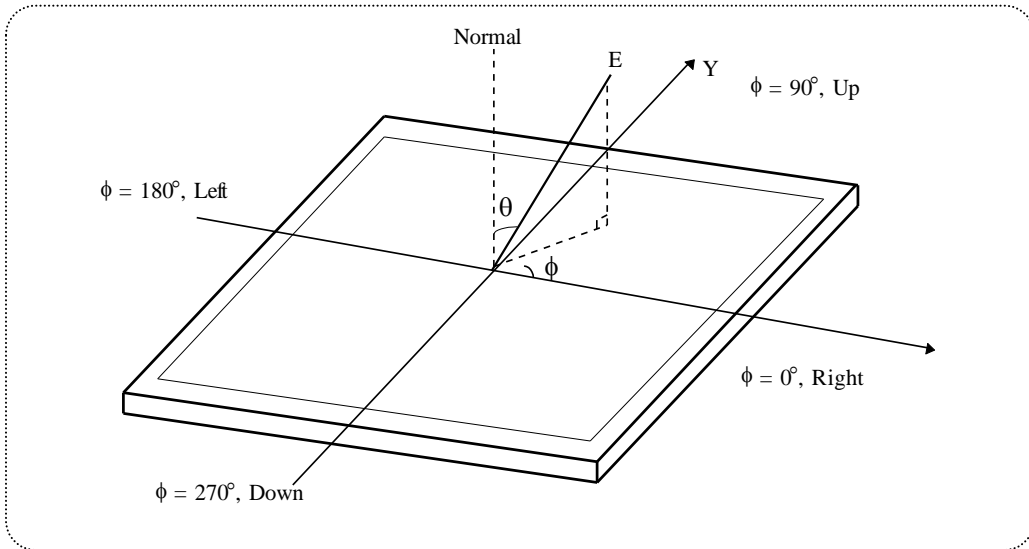

FIG.10 Viewing angle
7. Viewing angle is the angle at which the contrast ratio is greater than 10. The angles are determined for the horizontal or x axis and the vertical or y axis with respect to the z axis which is normal to the LCD surface. For more information see FIG.10 **(By PR880)**